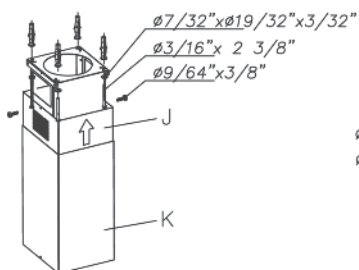

Fig. 4
• Attach the previously adjusted telescopic structure to the ceiling using 4 screws and washers (Fig. 4).
• Introduce the J pipe with the grate on the upper part and attach the telescopic structure using 2 screws (Fig. 4).